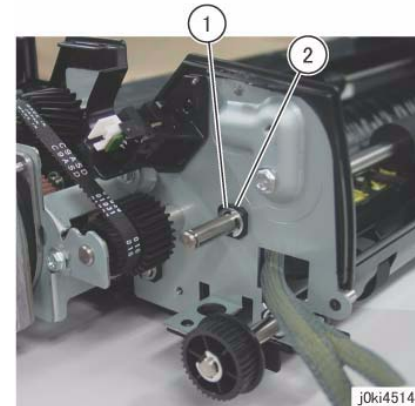

Figure 5 Remove the bearing
15. Remove the bearing at the rear. (Figure 5)